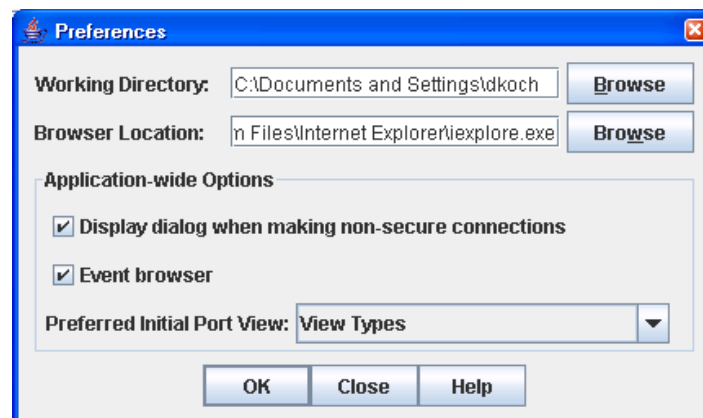

Figure 2-5. Preferences Dialog – QuickTools
- Enable (default) or disable the Event Browser. Refer to "Event Browser" on page 3-4. If the Event Browser is enabled using the Preferences dialog as shown in Figure 2-5, the next time QuickTools is started, all events will be displayed. If the Event Browser is disabled when QuickTools is started and later enabled, only those events from the time the Event Browser was enabled and forward will be displayed.